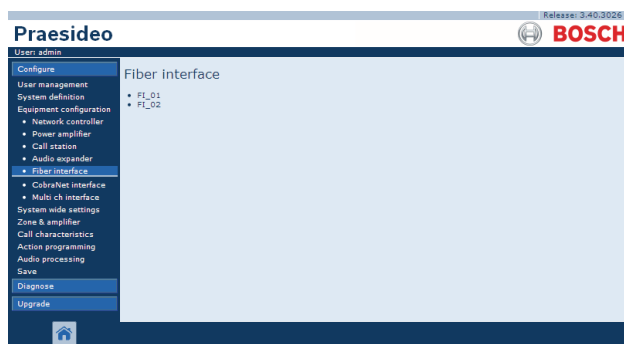

figure 44.50: Configure fiber interface step 1
- 1 Go to *Configure > Equipment configuration > Fiber interface*. A screen similar to the one in figure 44.50 appears in the main frame of the web interface.